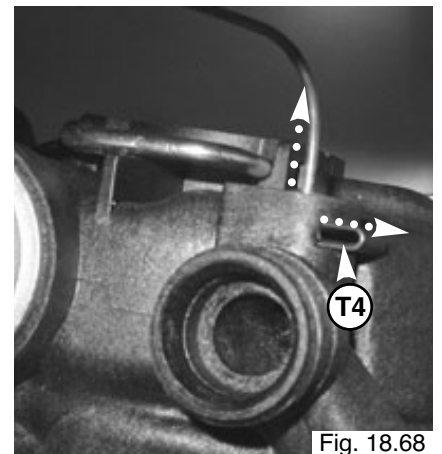

Fig. 18.68
3. Remove the clip "T4" securing the pressure gauge (see Fig. 18.68);